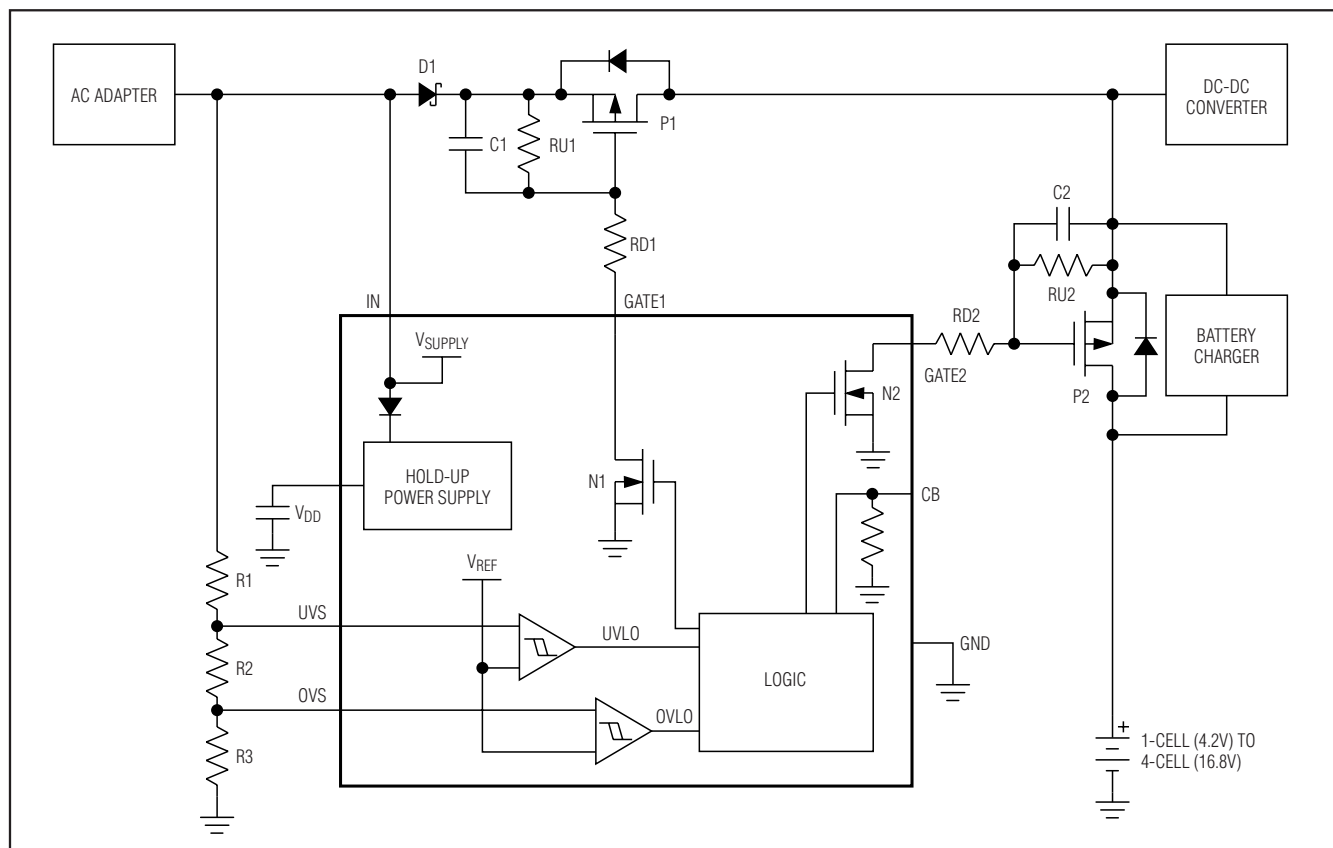

Figure 4. MAX4959 Typical Operating Circuit 1
The MAX4959/MAX4960 feature a control bit (CB) pin that controls an external battery-switchover function that switches in the battery when the adapter is unconnected. The host system detects when the battery switchover must take place and pulls CB high to turn on P2. The load current is not interrupted during battery switchover as the body diode of P2 conducts until the CB line is driven high (see the *MAX4959 Typical Operating Circuit 1*, Figure 4).
The MAX4959/MAX4960 include undervoltage and overvoltage comparators for window detection (see Figure 4). GATE1 is enhanced and after the debounce time, the pFET is turned on when the monitored voltage is within the selected window.